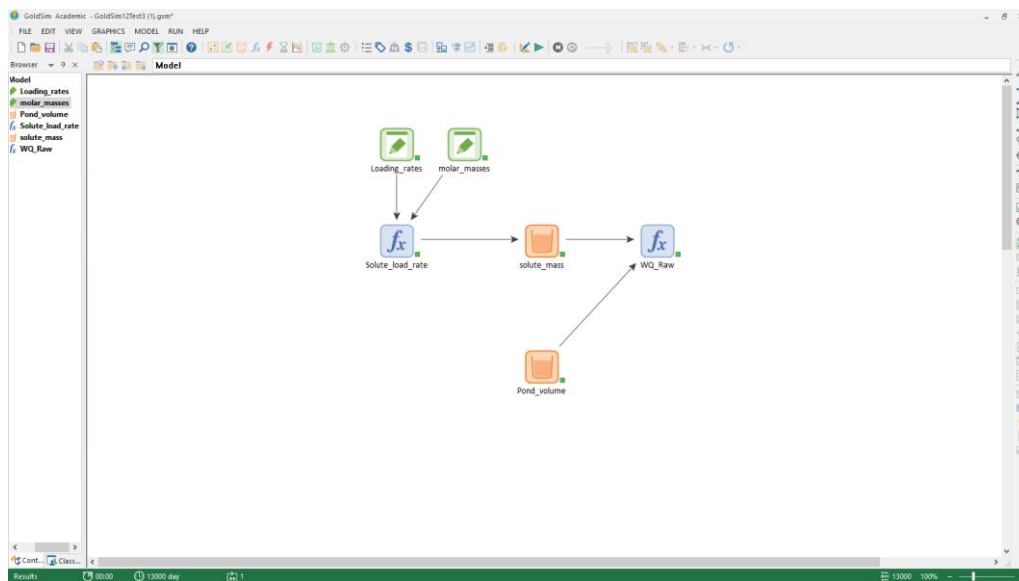

Figure 4: Initial condition of GoldSim Simulation
1. Create the initial conditions of the model, including the input data you are wishing to pass into GoldQC. See Figure 4.